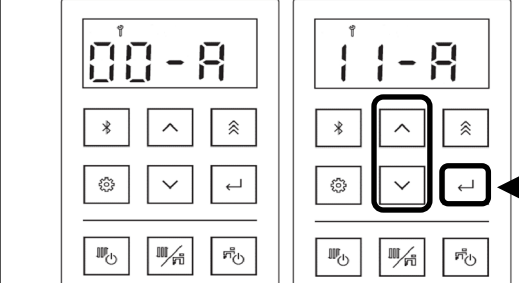

Fig 7. "Up," "Down" and "Select" Buttons
- 2. Press the (Up) or (Down) arrows to select a parameter setting. Then, press the "Select" button (Fig 7).